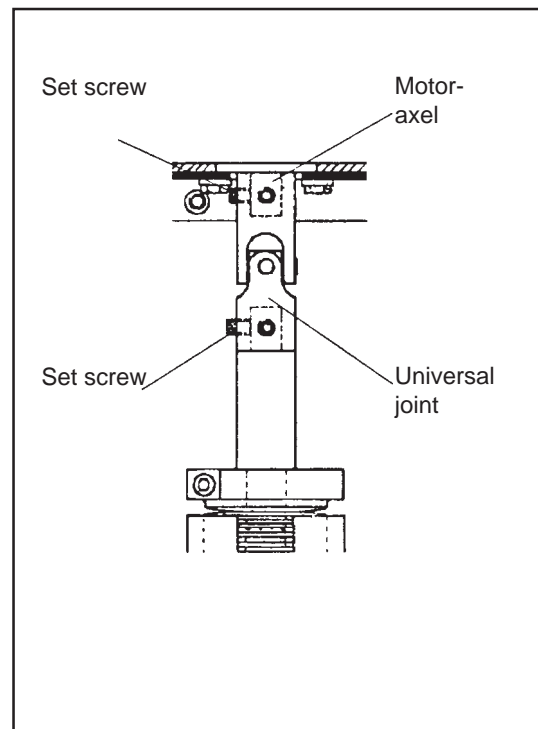

Figure 4.
4. Mark and remove the connections to the stepping motor, figure 4.